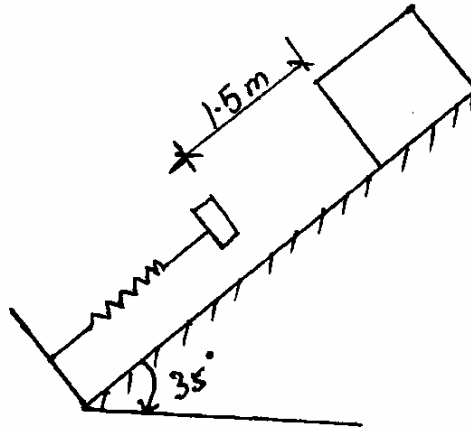

Fig. 7.
- (ii) A block of mass 50 kg slides down a 35° incline and strikes a spring 1.5 m away from it as shown in Fig. 7. The maximum compression of the spring is 300 mm when the block comes to rest. If the spring constant is 1 kN/m, find the coefficient of kinetic friction between the block and the plane.